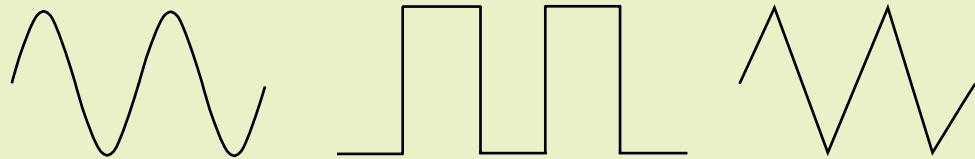

Figure 5.20
1. Name the types of periodic waveforms shown in Figure 5.20.